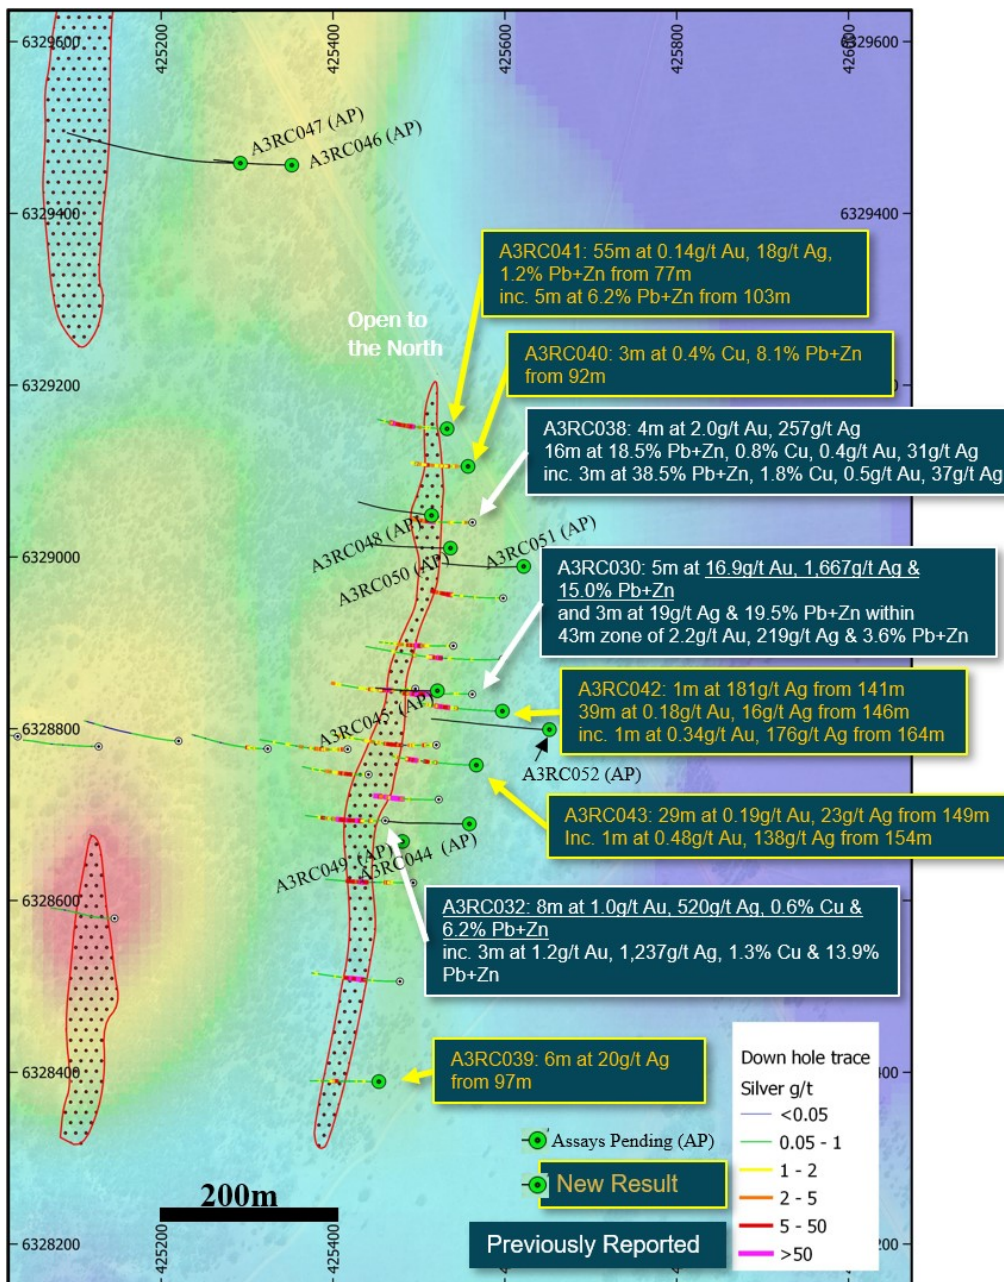

Figure 2: Achilles plan map showing new holes and assay results, along with selected previous results.
A twenty-hole reverse circulation (RC) drilling program is continuing at Achilles. Fourteen drill holes have been completed to date with assays now received for the first five holes. Three of these holes were located at the northern and southern extents of the deposit and two holes in the central portion of the deposit (Figure 2).